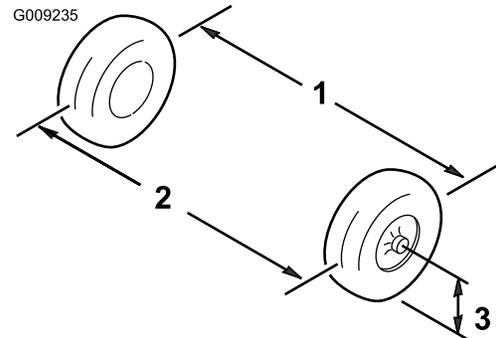

Figure 55
1. Measure the distance between both of the front tires at the axle height at both the front and rear of the front tires (Figure 55).